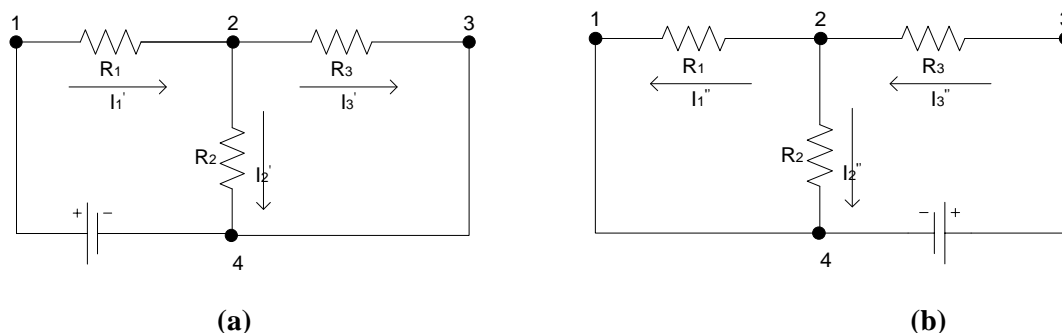

Figure 8.2: Application of superposition principle
3. Turn by turn; take the effect of each source by replacing the other with a short circuit and disconnecting it as shown in Figure 8.2. Repeat step 2 for each source until individual effects of all the sources have been taken into account.